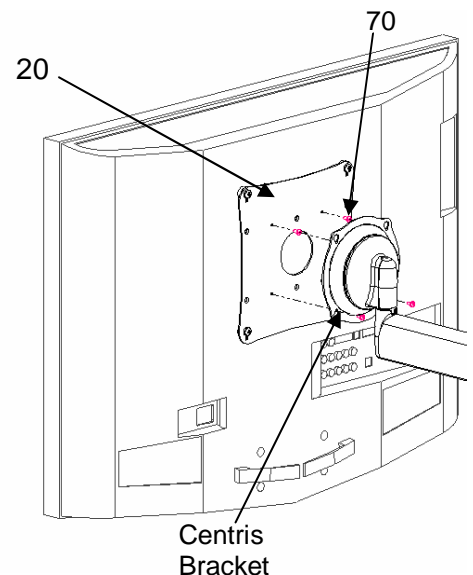

Figure 12. Mount Display to Centris Bracket
1. Start two M4 x 8mm Phillips pan head screws (70) into top mounting holes on VESA Plate (20). See Figure 12.
3. Install two remaining M4 x 8mm Phillips pan head screws (70) through bottom mounting holes of Centris bracket, and into VESA Plate (20).